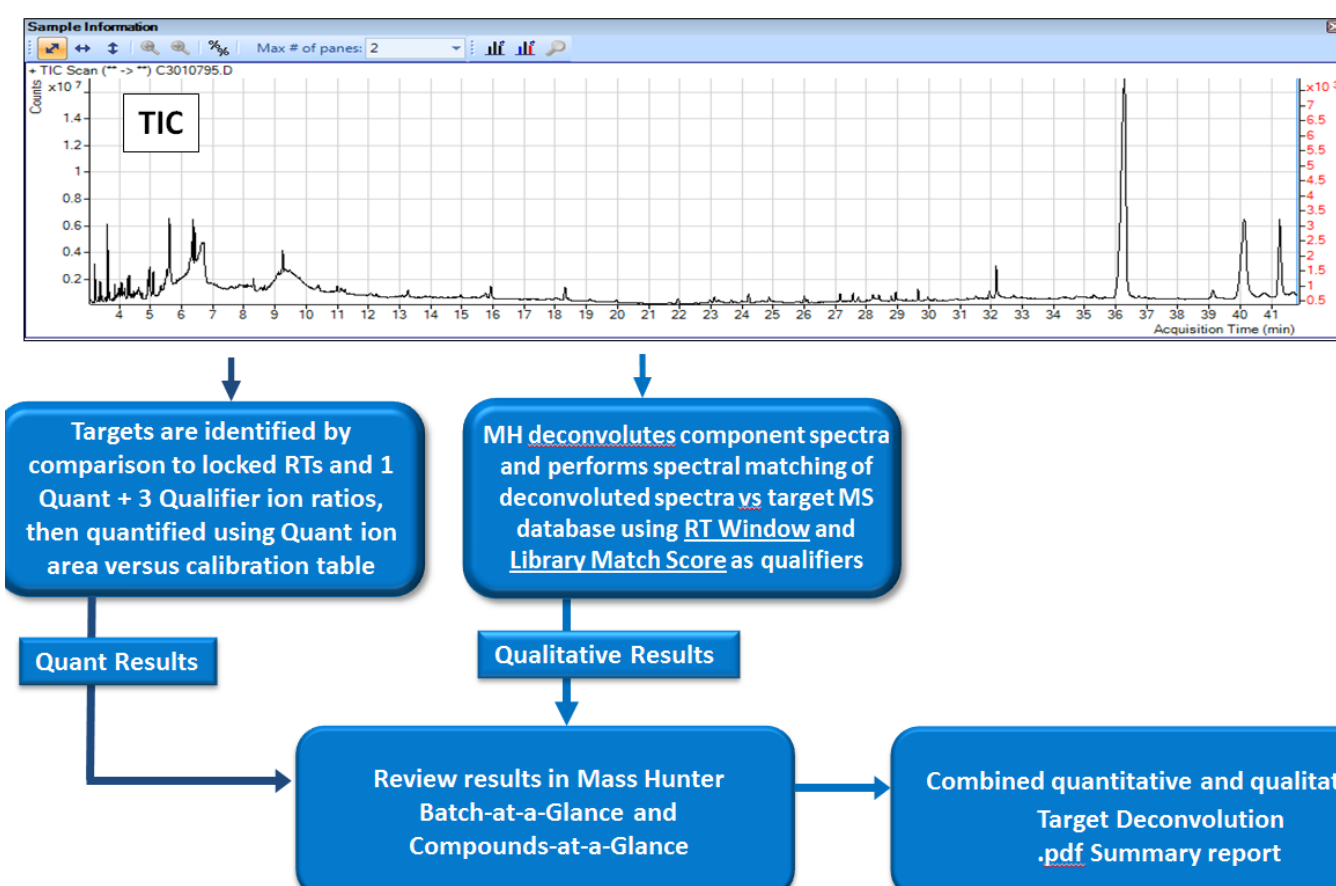

Figure 3. Target Deconvolution workflow in Mass Hunter Quant SW
The latest revision of Mass Hunter (MH) Quantitative analysis software (Version B.06.00), released in March 2013, includes a fully integrated feature called 'Target Deconvolution' (TD). TD provides additional confidence in target analyte identification through the seamless implementation of automated mass spectral deconvolution and the matching of full, deconvoluted component spectra to a reference mass spectral database. Figure 3 shows a flow diagram of how TD is incorporated in to Mass Hunter Quant software.